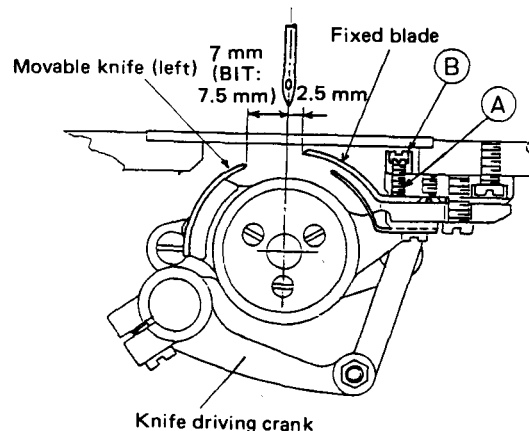

Fig. 12
(1) Positions of movable knife (left) and fixed blade
- ① Fig. 12 shows the standard state.